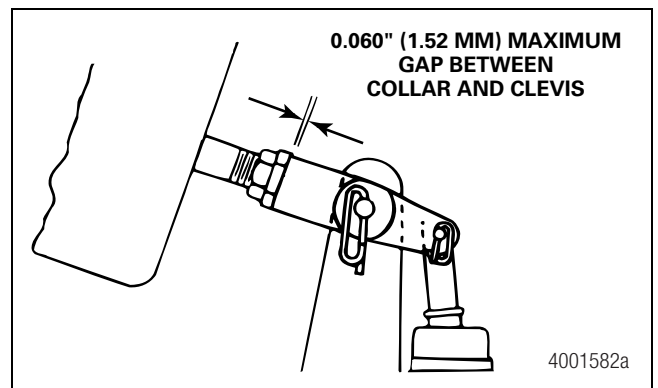

Figure 6.5
12. Remove the clevis from the push rod if the gap between the clevis and the collar of a Quick Connect clevis exceeds 0.060-inch (1.52 mm). Do not remove the clevis if it is in good condition. Figure 6.5.